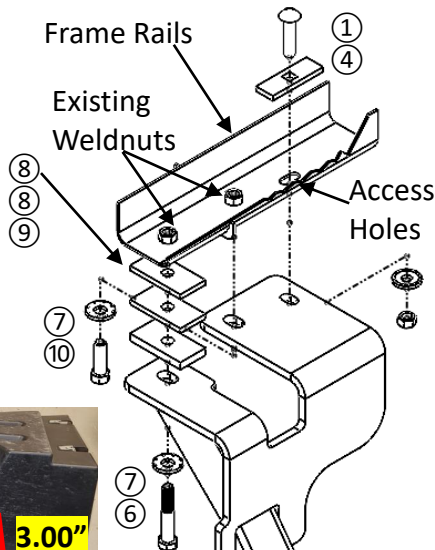

Figure 3
③	Qty. (2)	Conical washer 7/16"
④	Qty. (2)	Spacer .250 x 1.00 x 3.00
⑤	Qty. (2)	Pull wire 7/16"
⑥	Qty. (1)	Bolt M12x1.75x70mm CL 8.8
⑦	Qty. (4)	Conical washer 1/2"
⑧	Qty. (2)	Spacer .250" x 1.50" x 3.00"
⑨	Qty. (1)	Spacer .375" x 1.50" x 3.00"
⑩	Qty. (3)	Bolt M12x1.75x40 CL 8.8
- Lower exhaust muffler:** Use soapy water to lubricate exhaust rubber hangers. Using exhaust removal pliers, remove (2) rubber hangers. **Note:** Be sure to support exhaust before removing rubber hangers.
- Remove bottom appearance panel:** Using 7 mm socket and flat head screwdriver, remove (8) screws and (1) rivets from bottom appearance panel on passenger side of vehicle. Return (2) screws to vehicle owner.
- Remove Bolts:** Using 19 mm socket, remove (2) M12 bolts from bottom surface of chassis both side of vehicle both sides of vehicle, see **Figure 3**.